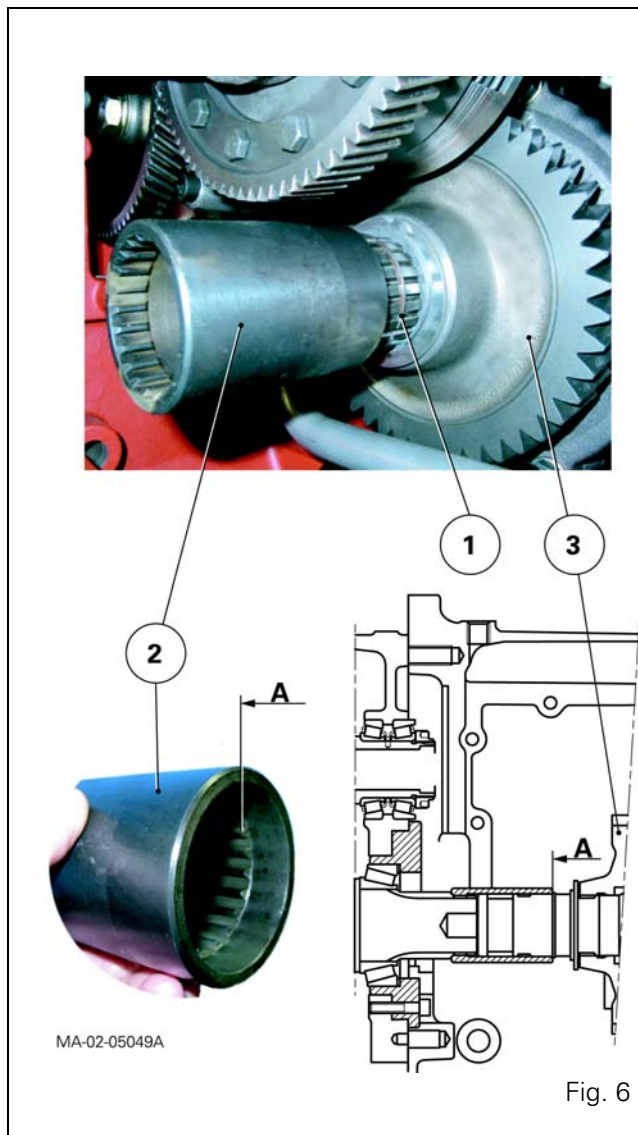

Fig. 6
- The presence of the locking ring (1) on the drive pinion (Fig. 6).
- The correct positioning of the sleeve (2) on the drive pinion (Fig. 6).